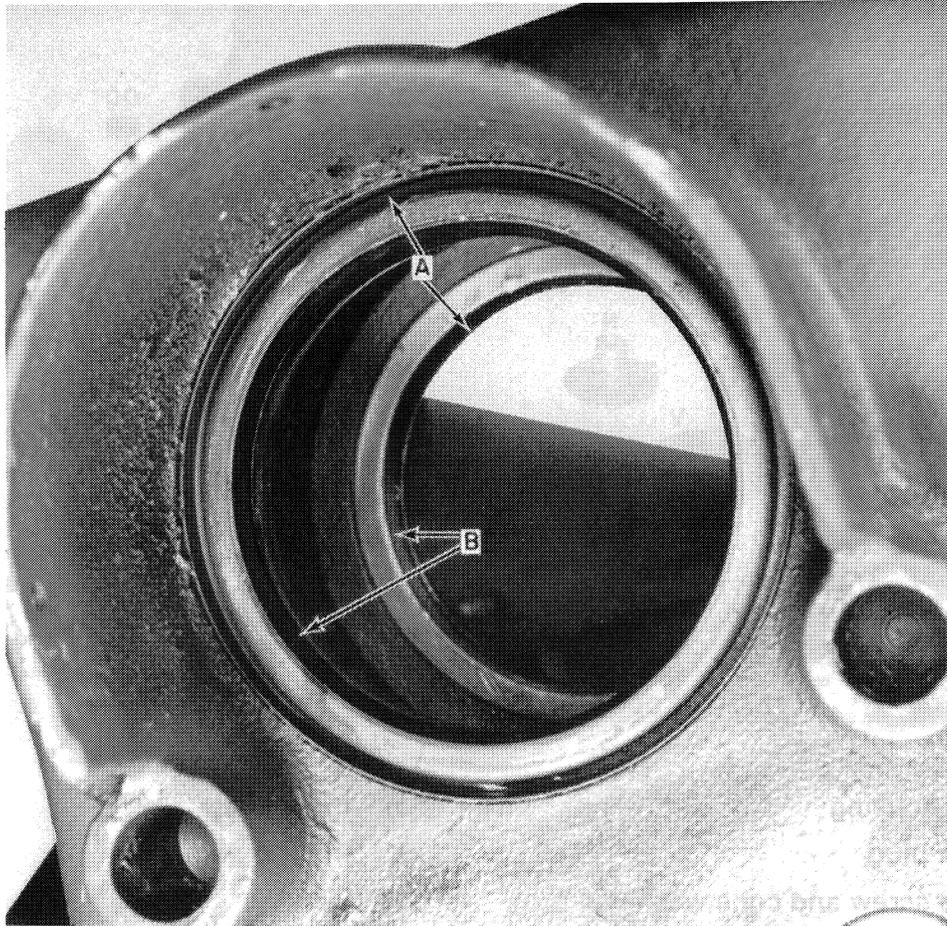

FIGURE 21
1. Inspect the seals and bushings shown at A and B, Figure 21, for damage and wear. Should replacement of either of these components be necessary, a bushing and seal driving tool will be necessary to insure that they are reinstalled in the gearbox housing squarely, without damage.